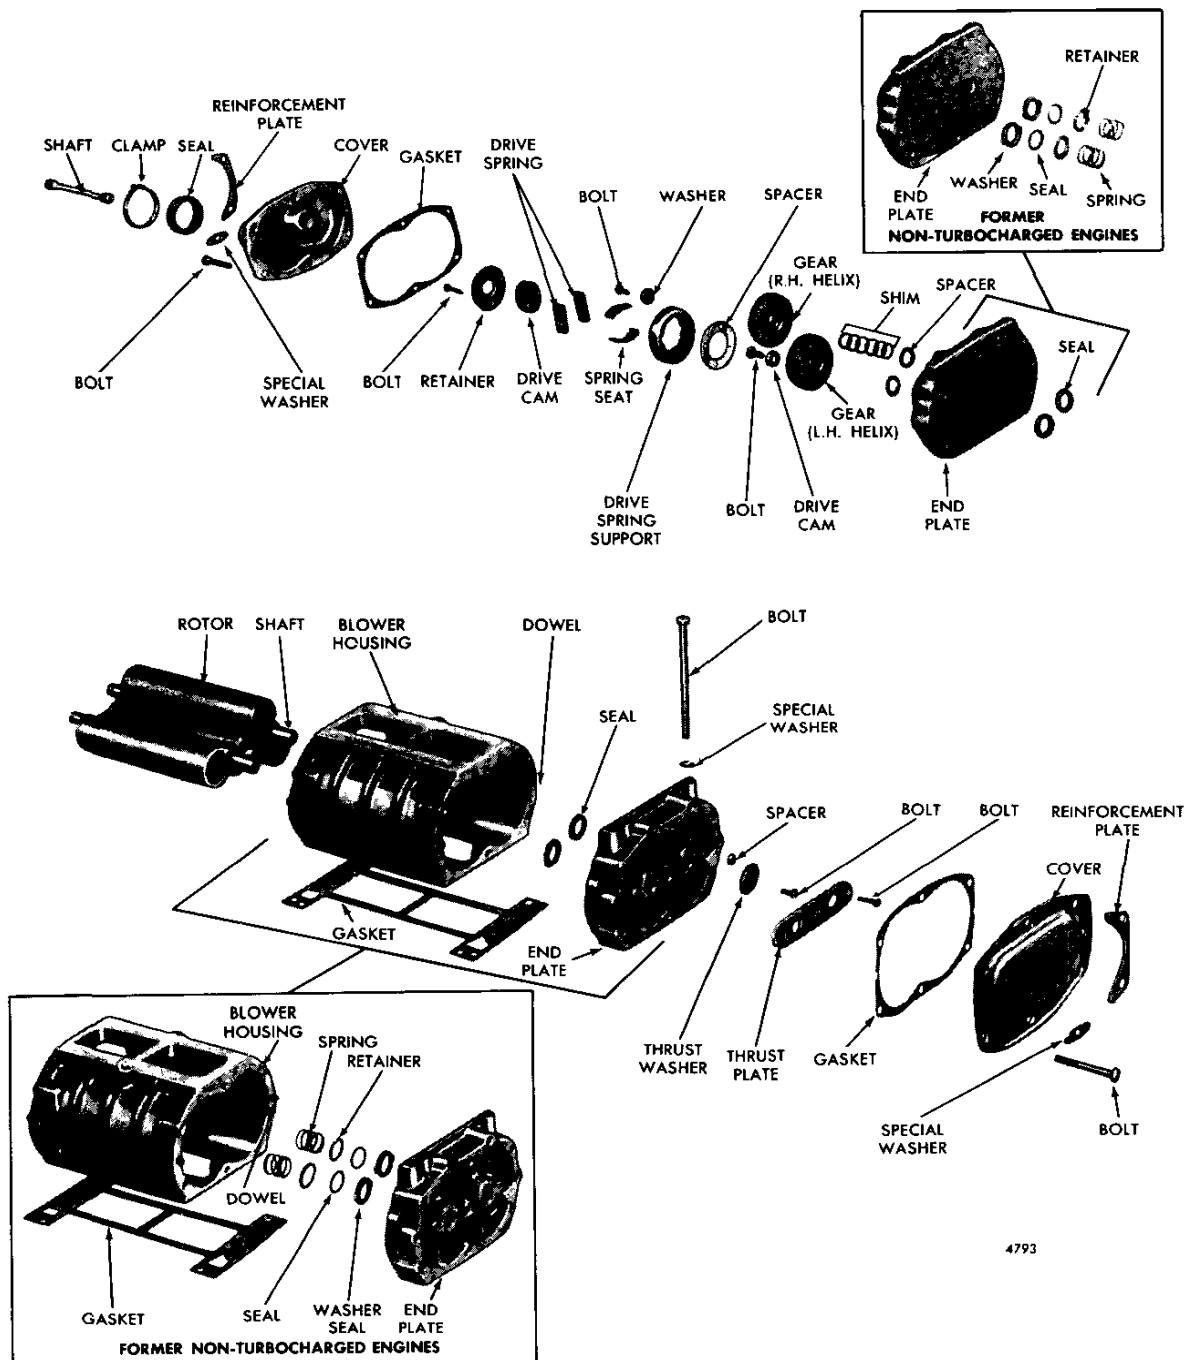

Fig. 7 - Typical Blower Details and Relative Location of Parts (4-53 Engine Blower)
1. Refer to Fig. 7 and remove the six bolts, special washers and reinforcement plates which secure the front end plate cover and the front end plate to the blower housing. Then, remove the end plate cover and gasket from the end plate.